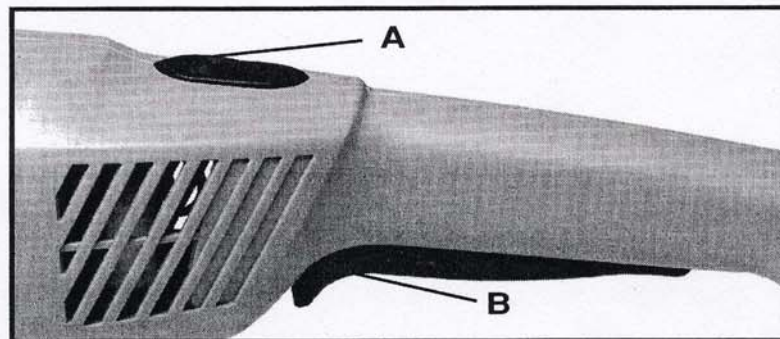

Fig. 1
3. Press switch lockout button (A), Fig. 1 and hold.
4. Squeeze switch trigger (B) Fig. 1, to turn tool "ON". When released, the switch will return to the "OFF" position.
5. Release switch lockout button (A) Fig. 1.
6. To lock the switch in the "ON" position press switch lockout button (A), Fig. 1 and hold. Squeeze switch trigger (B) Fig. 1 to start tool, release switch trigger (B) Fig. 1, and release switch lockout button (A) Fig. 1. To release the switch lock: squeeze switch trigger (B) Fig. 1.